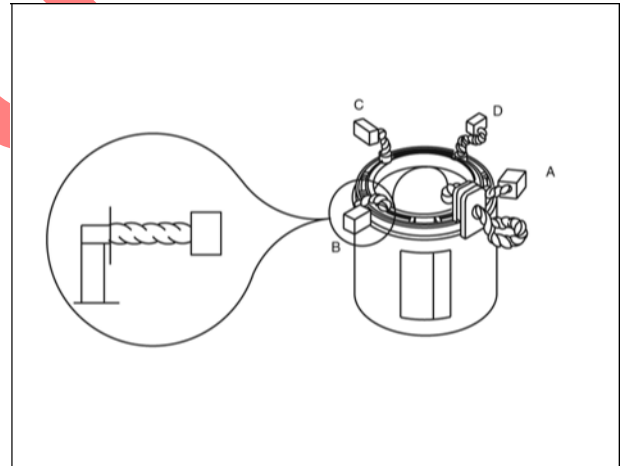

Figure 66
3. Crimp replacement brushes over terminals so that wires face in counterclockwise direction (Figure 66).